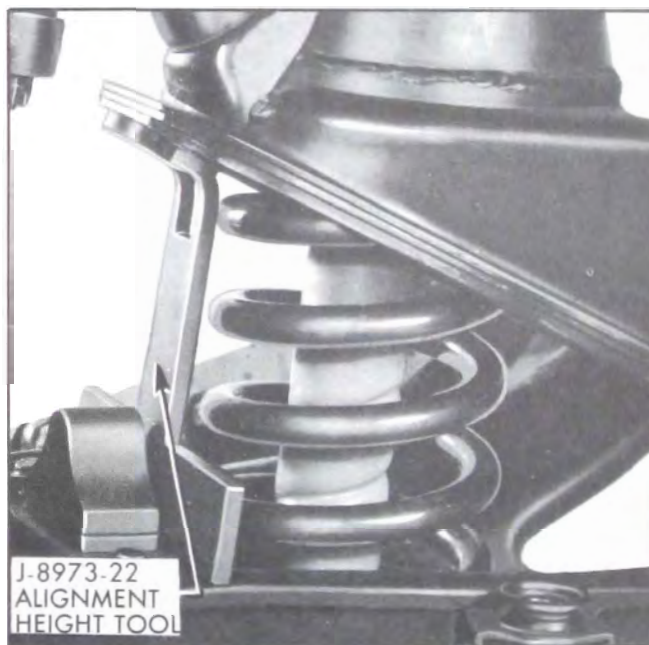

Figure 7-20—Front Alignment Height Tool in Position (Right Shown)
8. Car must be on level surface. Raise front of car slightly and place Front End Alignment Height Tool J-8973-22 between front cross member and lower control arm at each front wheel as shown in Figure 7-20. Lower front of car to hold Alignment Height Tool J-8973-22 securely in position.